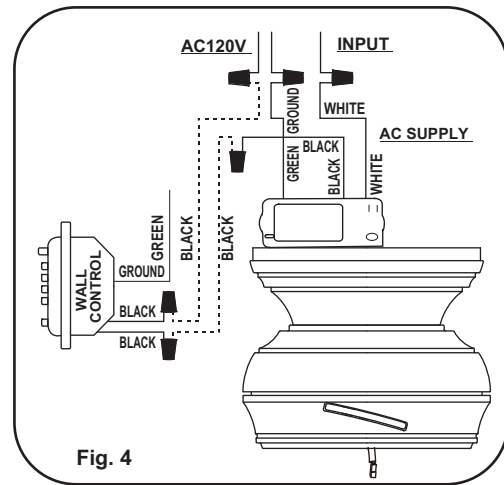

Fig. 4
Step 2. Make the electrical connections as shown in Fig. 4. If your outlet box has a ground wire (Green or Bare Copper) connect the Transmitter's ground wire directly to one of the screws from the outlet box. Secure all wire connections with the plastic wire nuts provided.